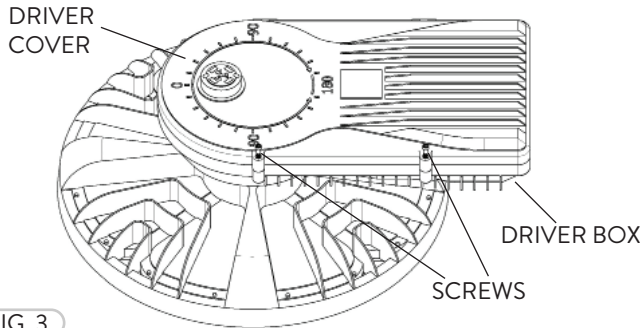

FIG. 3
- 1 The Optional Dimming Function is available for select models of the FHMA Series. Loosen the Driver Cover Screws (2) at the side of the Driver Box (Fig. 3).